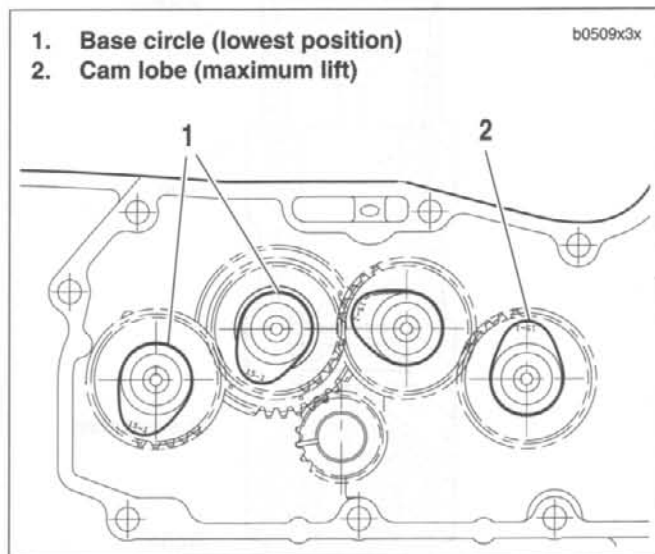

Figure 3-60. Base Circle
1. See Figure 3-60. Rotate engine so that both tappets, from the cylinder being serviced, will be installed on the base circle (1) of the cam.